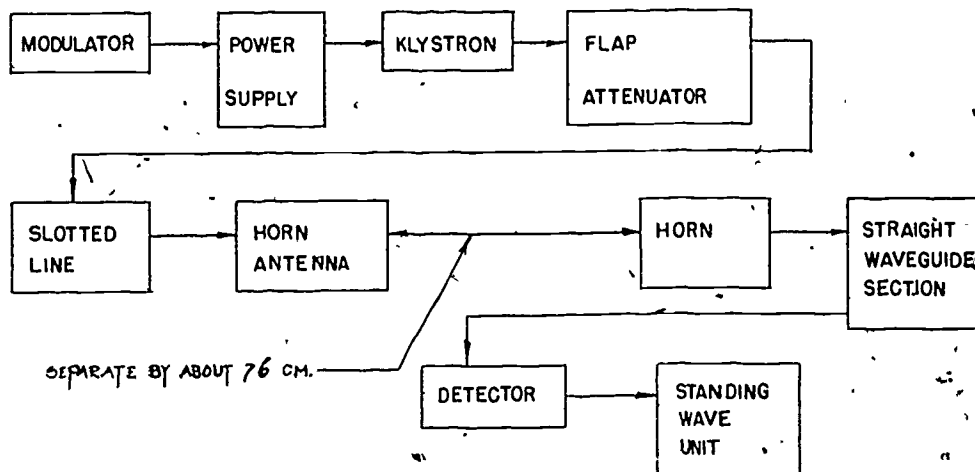

Fig. 1--Attenuation Measurement Setup
1. Connect the equipment as in Fig. 1.